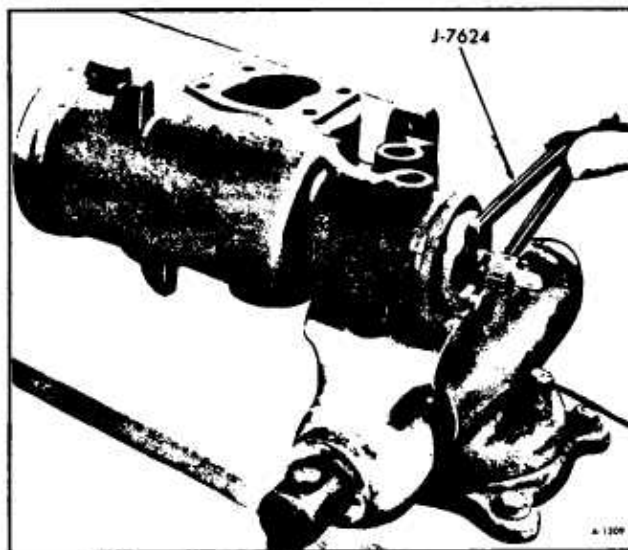

Figure 27-Removing Adjuster Plug
b. Remove adjuster plug assembly with Spanner Wrench J-7624 (figure 27). Remove and discard the adjuster plug "O" ring.